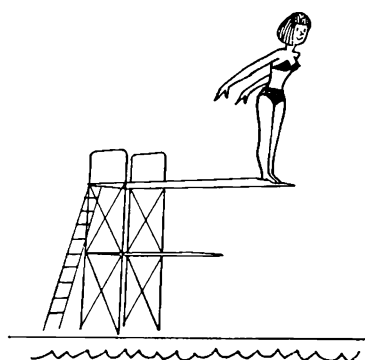

Fig. 341
2. A girl is bouncing up and down on the end of a springboard (Fig. 341). How could a stout man make the same springboard vibrate naturally at the same frequency?